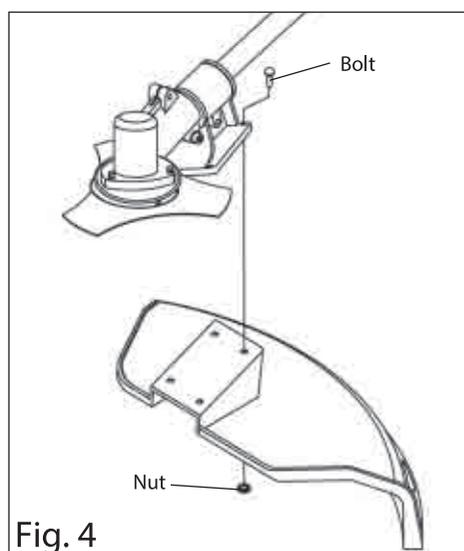

Fig. 4
- Install the protective guard on to the shaft using the supplied screws and nuts (see fig. 4).